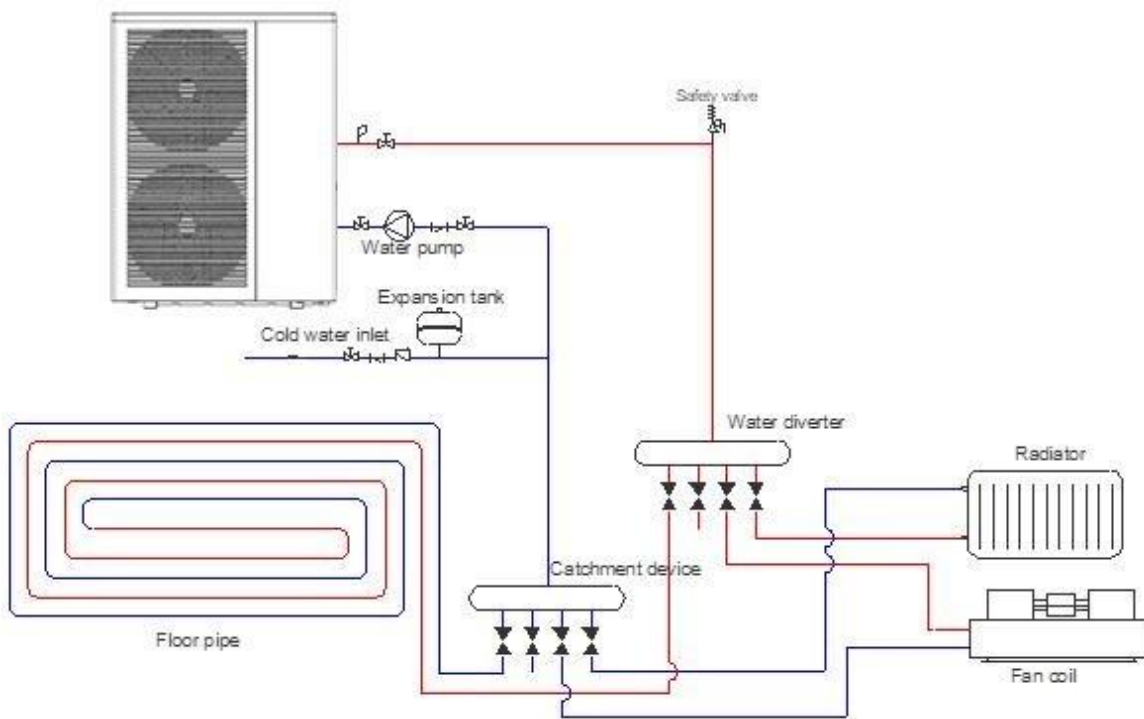

Figure 10
- 1) System installation diagram (see Figure 10).